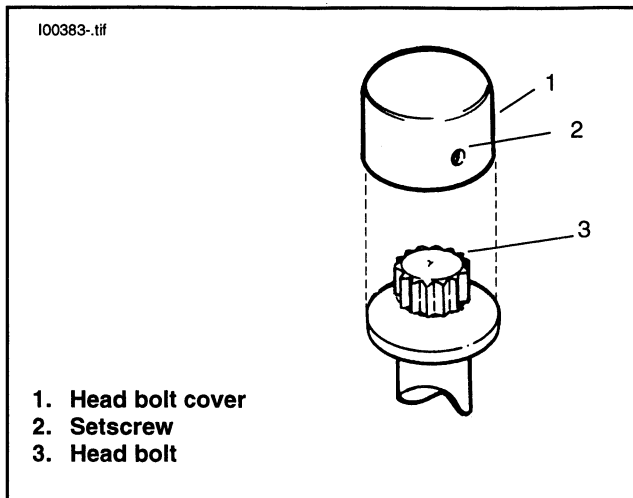

Figure 1. Head Bolt Cover Installation
2. See Figure 1. Install head bolt covers (1), on head bolts (3). Tighten using setscrew (2) and allen wrench included with kit. To prevent setscrews from falling into the spark plug holes, start threading the setscrews into the covers before placing them over the head bolts. Position cover on head bolt so that when spark plug is reinstalled setscrew is hidden from view but accessible to an allen wrench. Do not tighten setscrews on high points of bolts.